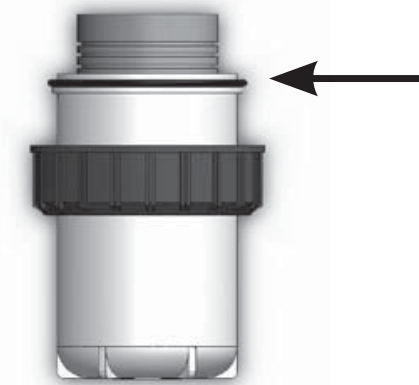

Figure 7 O-ring on Sump
4. Discard the used cartridge and clean the sump housing as required. Make sure to thoroughly rinse the sump with water to remove any cleaning agents. Before installing a new cartridge, please ensure that the o-ring seals are properly seated on the shoulders at the top of the sump (Refer to Figure 7), if there is any visible damage on the o-rings please replace them (P/N: OR40-50).